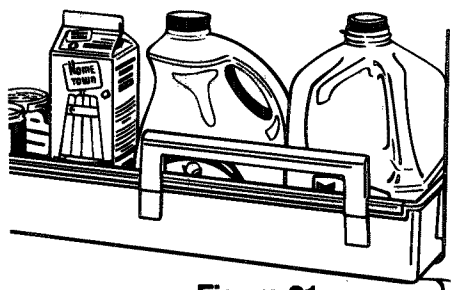

Figure 21
- To remove, rotate retainer away from you, and lift up. See Figure 21.